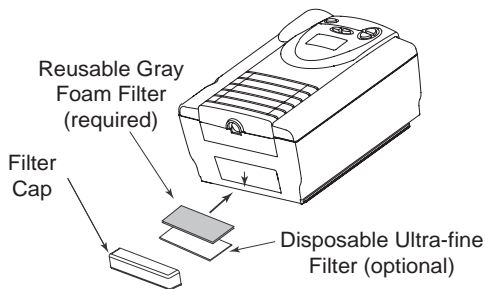

Figure 5-1 Installing the Filters
2. Slide the filters into the air inlet at the rear of the device, and push them down into the recess as shown in Figure 5-1.